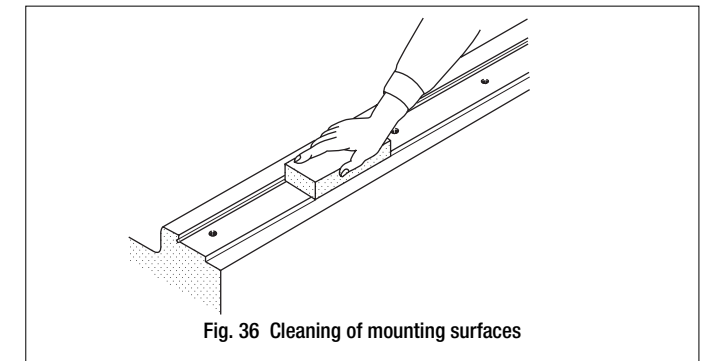
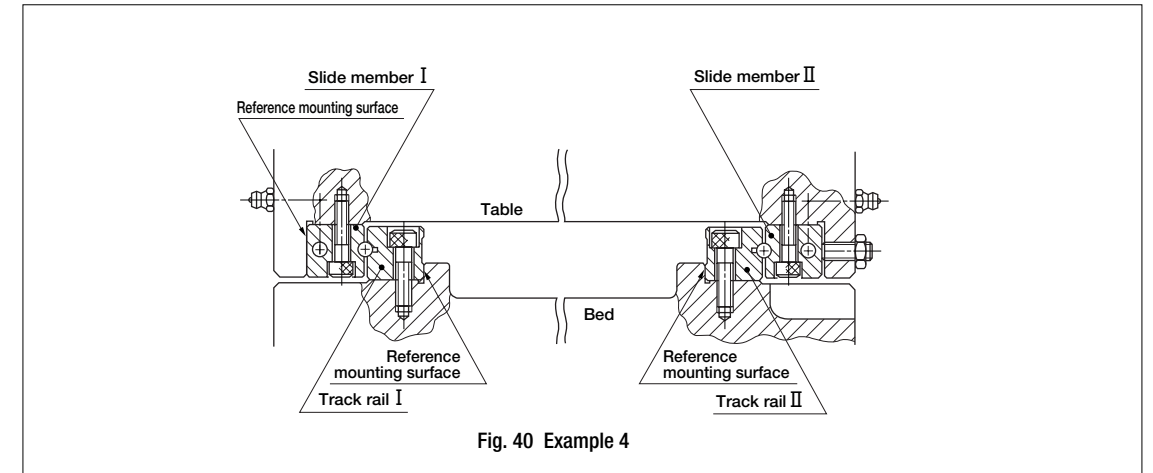

Fig. 36 Cleaning of mounting surfaces
Fig. 40 Example 4
- Remove burrs and blemishes from reference mounting surfaces and mounting surfaces of the machine using an oil-stone, etc., and then wipe the surfaces with clean cloth. (See Fig. 36.)
Generally, two sets of Linear Way Modules are used in parallel as shown in Fig. 36. They are usually mounted according to the following procedure. (See Fig. 40.)